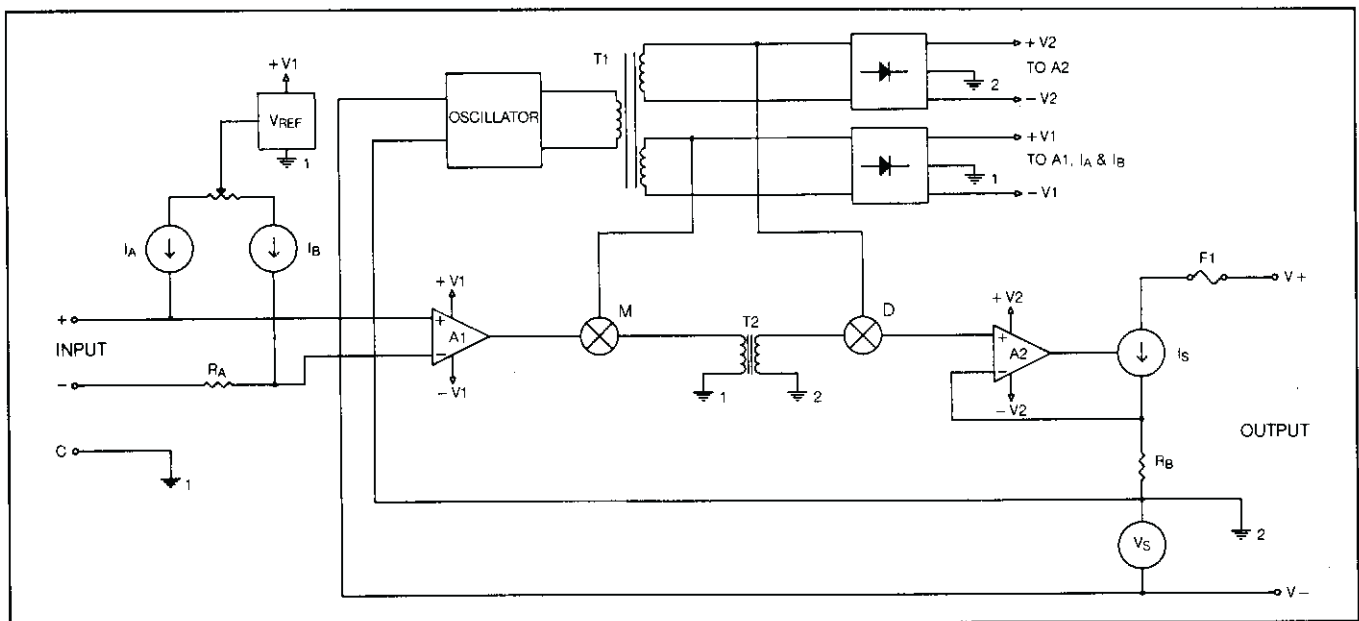

Figure 1: Simplified Block Diagram.
3.1 General Circuit Operation (See Figure 1)